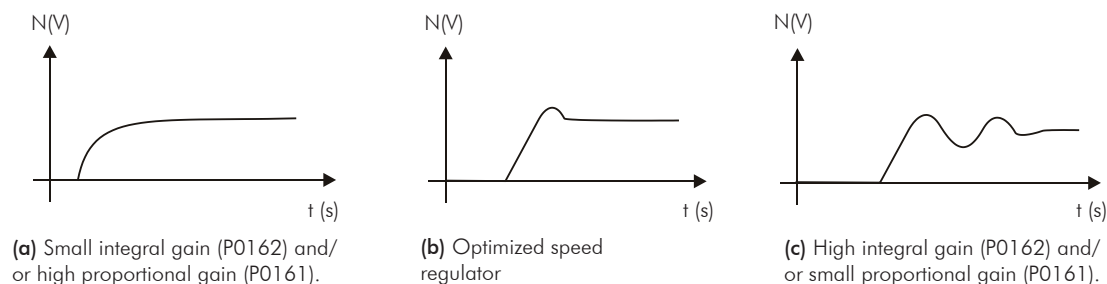

Figure 11.4 (a) to (c) - Speed regulators response types
6. Verify among the options of the figure 11.4, which waveform best represents the observed signal.
7. Adjust P0161 and P0162 according to the response type presented in the figure 11.4.